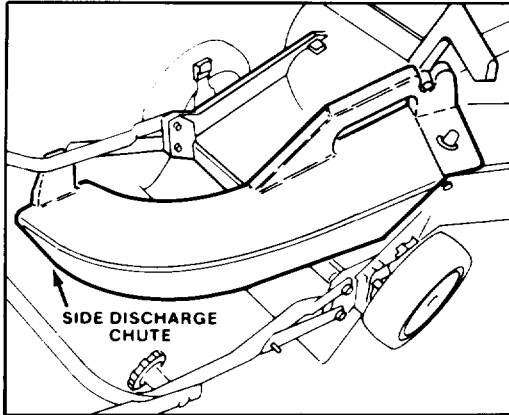

Figure 22
1. Side Discharge Kit, Model No. 59168—Installs in seconds. Rear mounted in place of the grass bag or Recycler plug. Disperses clippings while trimming on both sides (Fig. 22).